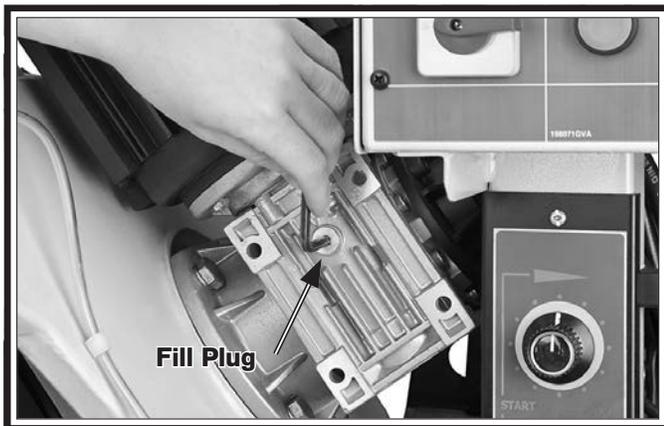

Figure 37. Gearbox fill plug.
2. Loosen the gearbox fill plug (see **Figure 37**).